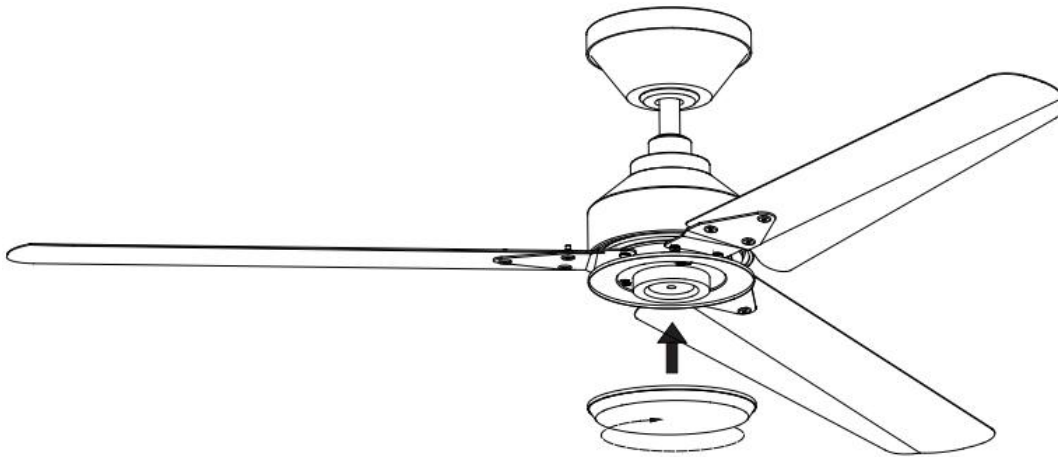

Fig. 13
3. Install the bottom cover onto the fan assembly, then secure it by turning clockwise. (Fig. 13)